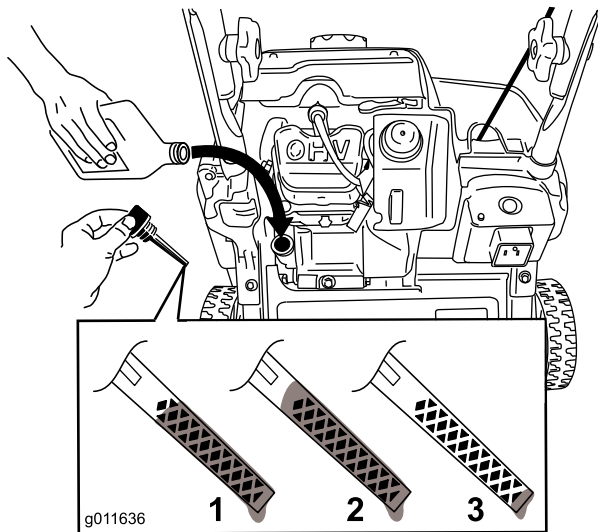

Figure 7
- Clean around the oil fill cap (Figure 7).
Note: To determine the proper oil level on the dipstick, refer to Figure 7.
Note: Fill the engine crankcase with oil until the dipstick indicates that the engine oil level is correct as shown in Figure 7. If you overfill the engine with